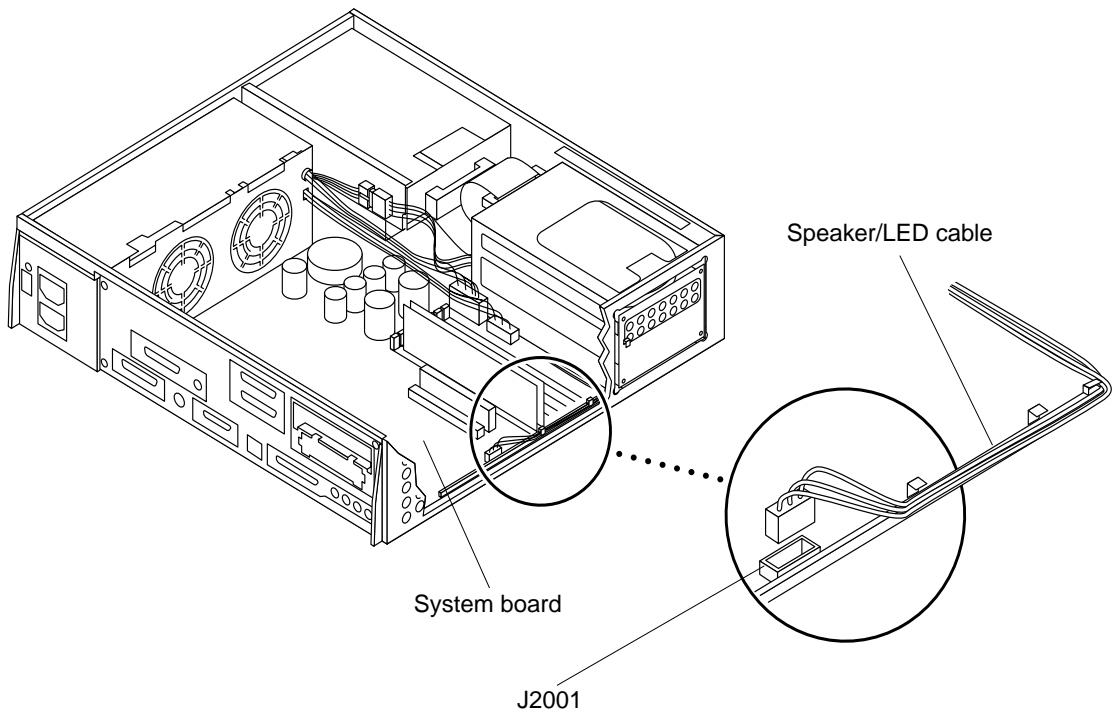

FIGURE 8-26 Speaker Connector on the System Board
- 9. Disconnect the speaker/LED cable from the system board at J2001 (FIGURE 8-26).**
1. **Route the speaker/LED cable as follows (FIGURE 8-26):**